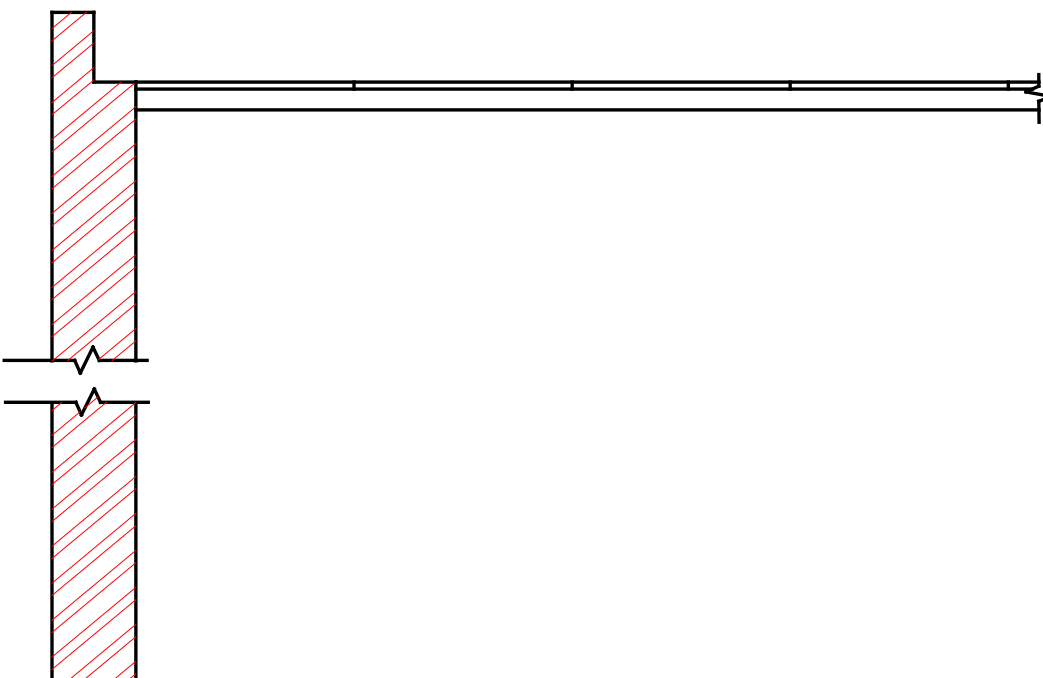

FIGURE 1.8
- 1.8 **FIGURE 1.8** shows a part of the vertical section through the formwork of a concrete floor slab. Complete the drawing to show the following:
- Label the props and wedges. (10)